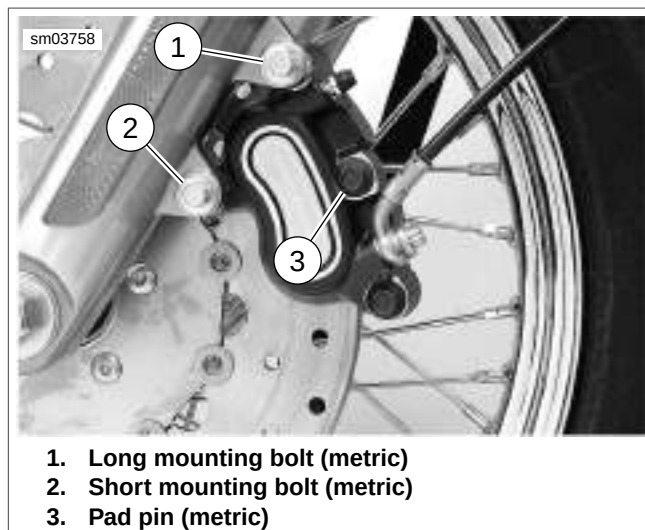

Figure 1-35. Front Brake Caliper (Left Side Shown)
2. See Figure 1-35. Loosen, but do not remove bridge bolt/pad pin (3) (metric).
7. Install **new** pads into caliper. The directional tab (2) must face down when caliper is installed.
- a. See Figure 1-35. Place caliper over brake disc with bleeder valve facing upward.
- b. Loosely install long mounting bolt (1) (metric) into upper hole on fork leg.
- c. Install short mounting bolt (2) (metric) into lower hole on fork leg. Tighten bottom mounting bolt to 28-38 ft-lbs (38.0-51.5 Nm).
- e. Final tighten center bridge bolt/pad pin (3) to 15-16 ft-lbs (20.3-22.6 Nm).